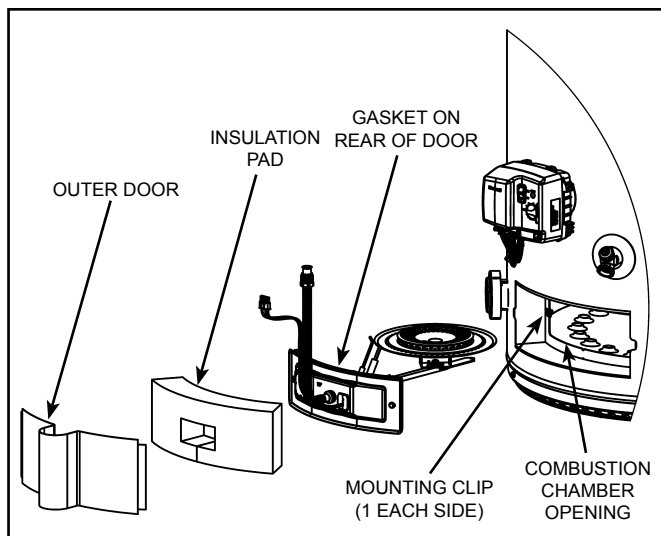

Figure 9
9. Remove inner door/manifold/burner assembly by grasping the manifold and pull back slowly. Rotating it to the left to clear the igniter and flame sensor. Care should be taken when inner door and burner assembly passes through jacket opening that it does not damage any of the electrical wiring (see Figure 9).
**Note:** If the burner door gasket (see Figure 9) is worn or damaged it needs to be replaced. See section "Door Gasket Replacement".
Prior to installing the new inner door/manifold/burner assembly, look inside the burner chamber to fully understand the correct positioning of the burner assembly and burner manifold tab. It may be necessary to use a flashlight to ensure correct placement. Care must be taken so as to not damage any electrical wiring, or components as you are installing the new inner door/manifold/burner assembly. Extra caution should be taken to ensure that electrical wiring, fiberglass insulation or any other object is not between door gasket and combustion chamber shield. **Note:** If the burner door gasket (see Figure 9) is worn or damaged it needs to be replaced. See section "Door Gasket Replacement".